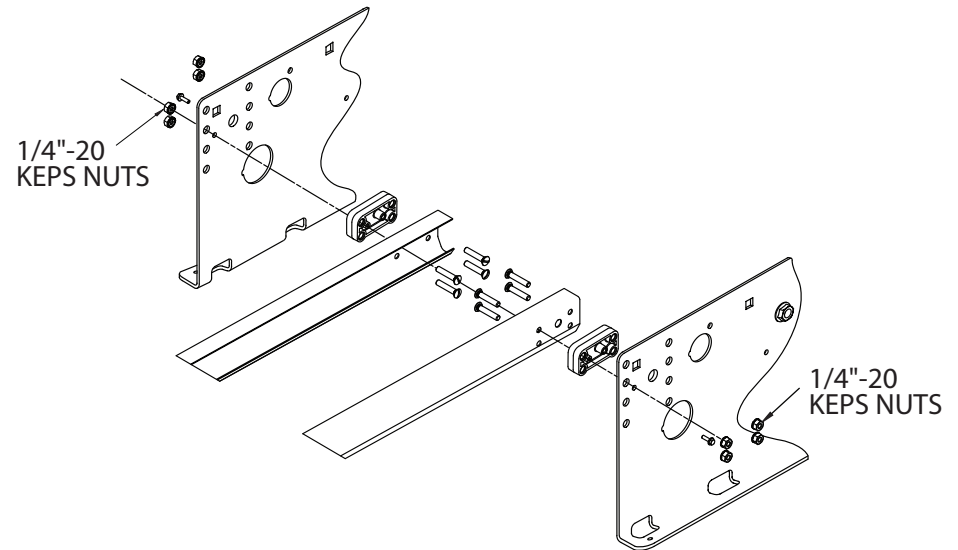

Figure 2
- Attach Track to Power Unit at the Spacers using eight (8) 1/4"-20 x 1-1/2" track bolts and 1/4"-20 keps nuts (provided). **Fig. 2.** The curved part of the Track MUST be toward the electrical panel.